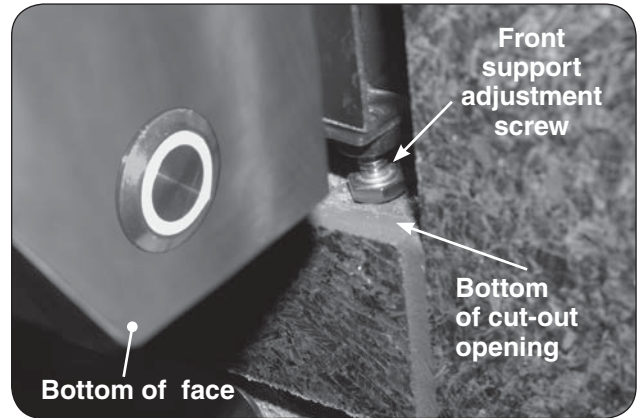

Fig. 22-1 Front support adjustment screws
6. Rotate the front support adjustment screws to the left to raise and to the right to lower the respective side of the appliance grill. Use a $\frac{7}{16}$ " open-end wrench as needed. See Fig. 22-1.